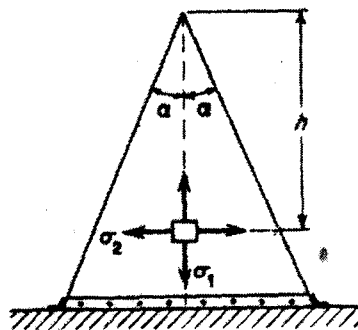

Fig.1b
b) A thin-walled cone (wall thickness  $t$ ) is supported on a horizontal base as shown in Fig. 1b and subjected to internal gas pressure  $p$ . Neglecting the weight of the cone itself, find the principal membrane stresses  $\sigma_1$  and  $\sigma_2$  at the level  $h$  below the apex. The apex angle of the cone is  $2\alpha$  as shown.